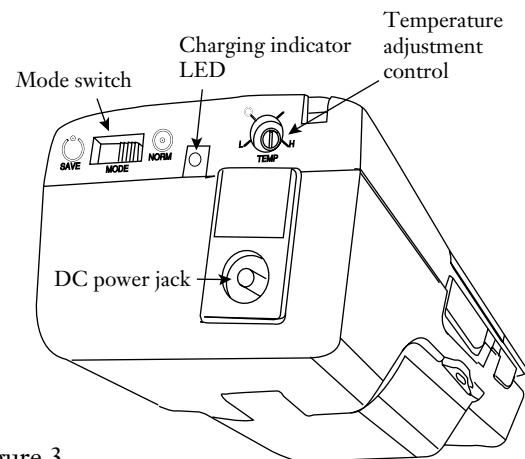

Figure 3
3.3. To charge the battery, connect the DC cord from the AC/DC power supply into the stripper's DC power jack and then plug the power supply's AC cord into an AC power outlet. The stripper's charger LED will come on (Figure 3). After approximately 150 minutes, the battery will be fully charged and the LED will go out.
3.4 Normal battery operation of the stripper is approximately 5 hours. A "Save" mode incorporated in the stripper can maximize battery life between charges. Flip the switch from its factory-set "NORM" position to "SAVE" to access this feature (Figure 3).
3.8 The operating temperature of the Thermal Stripper's heater is factory-set for optimal performance. To increase or decrease the temperature, use a small slotted screwdriver to rotate the temperature adjustment control (see Figure 3).